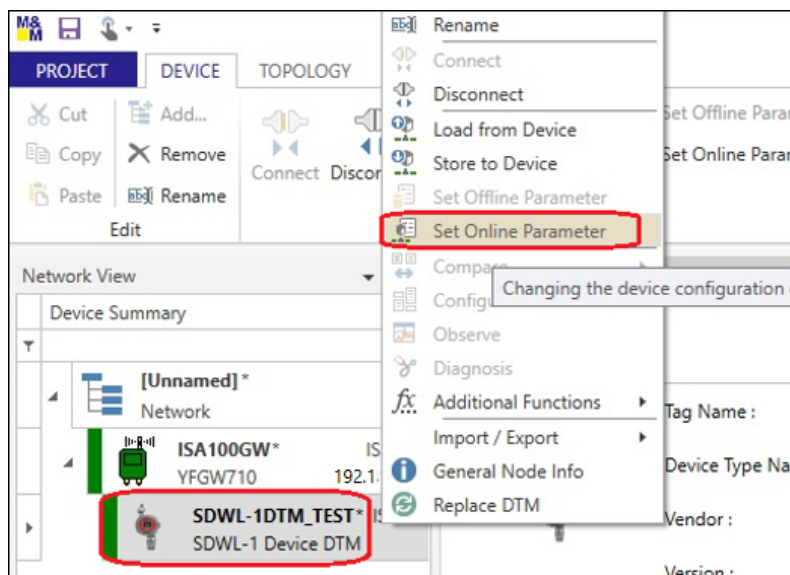

Figure 5-51 Selecting "Set Online Parameter" menu
- ⑬ Right-click the SDWL-1 (tag name) in the tree menu on the left side of the main window, then select "Set Online Parameter". (Figure 5-51)